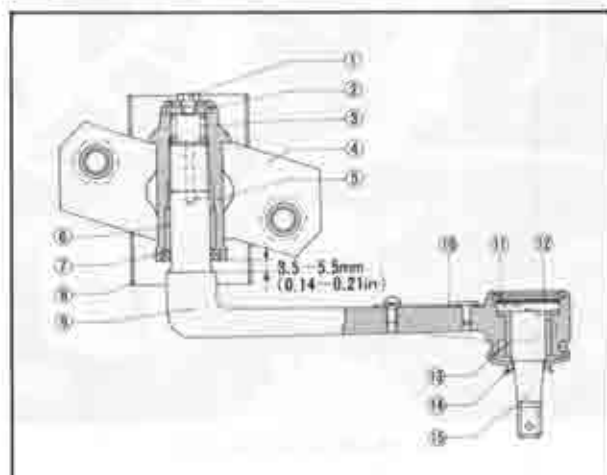

Fig. 10-24 Idler arm cross section
a) Check the clearance between the idler arm edge and the idler housing end as shown in Fig. 10-24. The clearance should be 3.5 ~ 5.5 mm (0.14 ~ 0.21 in).